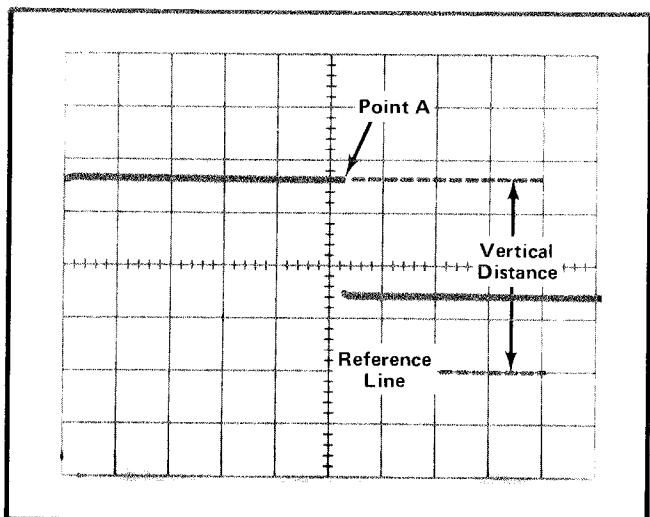

Fig. 2-3. Measuring instantaneous voltage with respect to some reference.
7. Measure the distance in divisions between the reference line and the point on the waveform at which the DC level is to be measured. For example, in Fig. 2-3 the measurement is between the reference line and point A.
**EXAMPLE:** Assume the vertical distance measured is 3.6 divisions (see Fig. 2-3) and the waveform is above the reference line using a 10X probe with a VOLTS/DIV setting of 0.5 V.